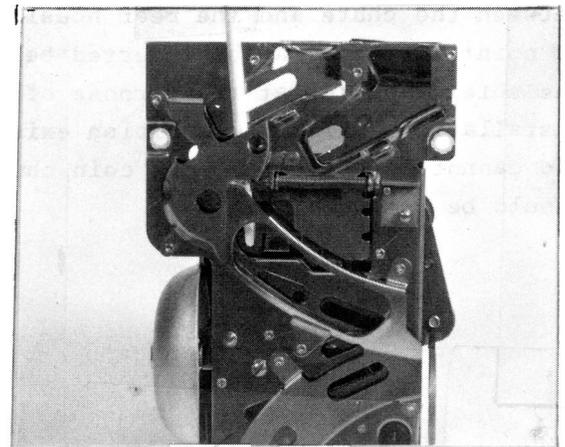

Fig. 3
- (a) Lift the quarter channel about 1/16 of an inch by wedging an orange stick under the channel as shown in Figure 3. Use an orange stick to prevent damage to the channel.